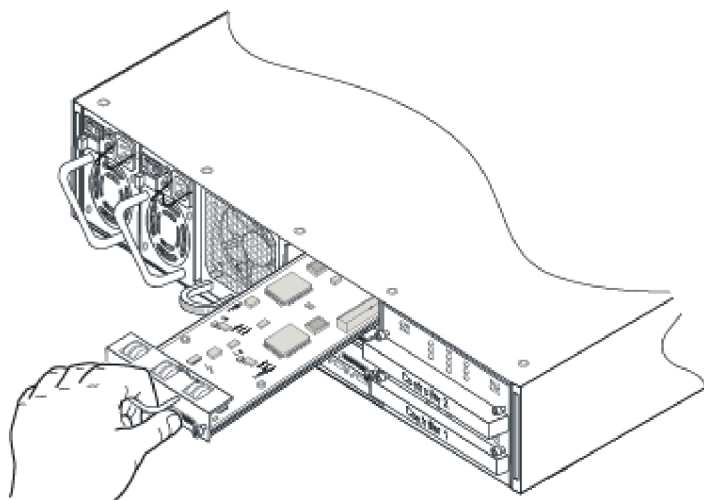

Figure 5-17 Reinstalling the SAF-TE Disk I/O Card
- 9 Align the I/O card with the rail guides of the open bay and push gently but firmly until the card seats completely. The SAF-TE disk I/O card is shown as an example in Figure 5-17.